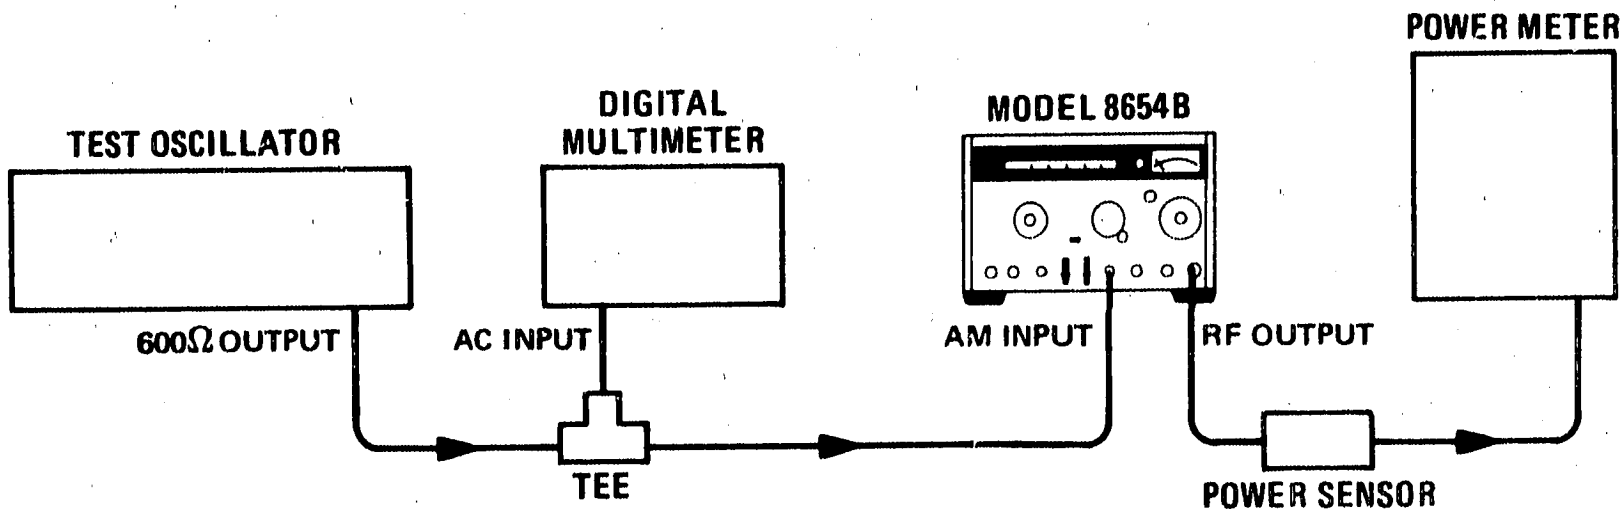

Figure 5-3. Meter Adjustments Setup
2. Set LINE switch to ON. Connect equipment as shown in Figure 5-3 after setting Signal Generator controls as follows: